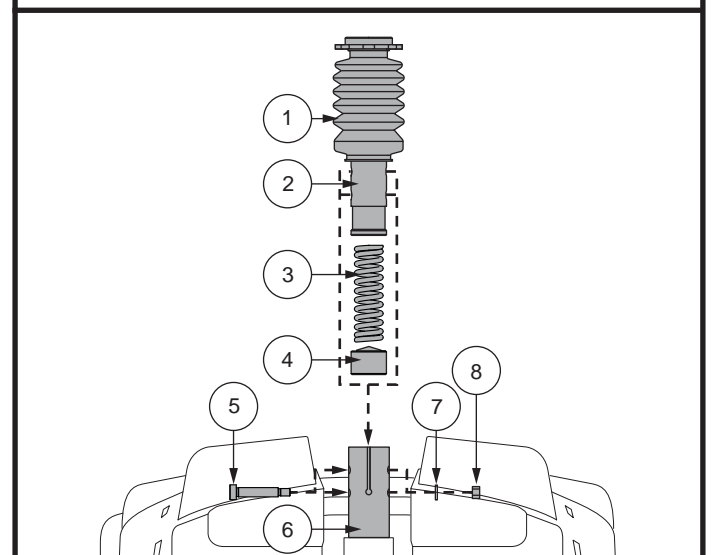

Figure 18. Seat Height Adjustment - Comfort Seat Post
4. Push down on the seat post while loosening and removing the shoulder bolt, washer, and nut. See figure 18.
6. Install the desired spring. **See figure 18.**